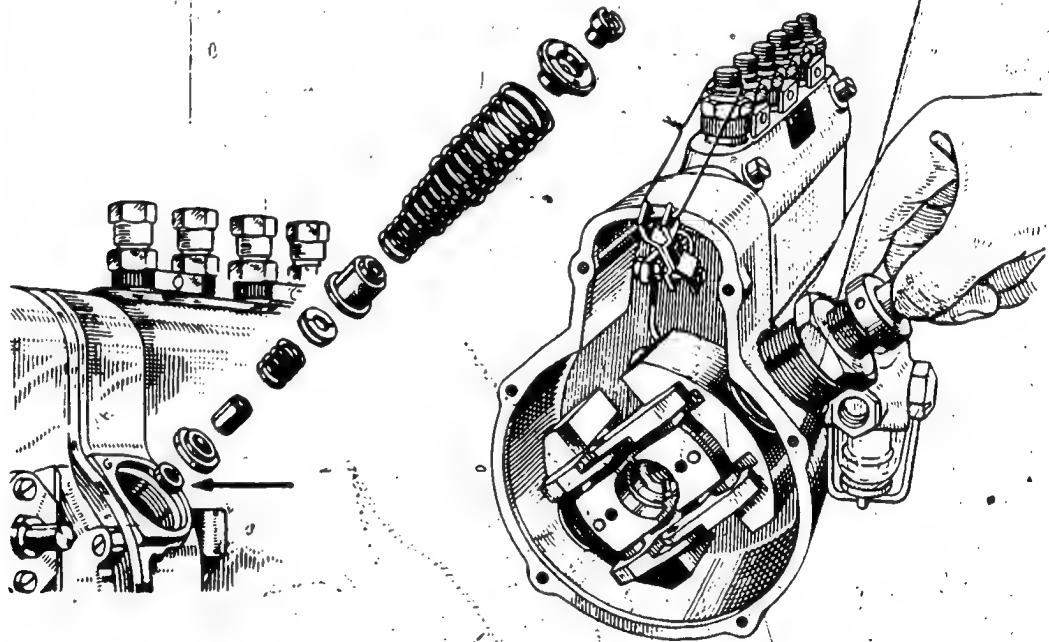

Fig. 5 Assembly of governor springs
2. Assembly of governor springs (see Fig. 5)